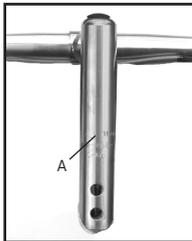

Figure 13- Minimum insertion mark on quill stem
3. Adjust the handlebar to the desired height, but with the minimum insertion line inside the frame (Figure 13). A minimum of $2\frac{3}{4}$ " (70 mm) of the stem quill must always remain in the frame.
Never ride your bicycle with a quill stem raised above the minimum insertion mark. A quill stem that is positioned too high can damage the bike and can cause you to lose control and fall. Make sure the minimum insertion mark (Figure 13) is inside the frame.